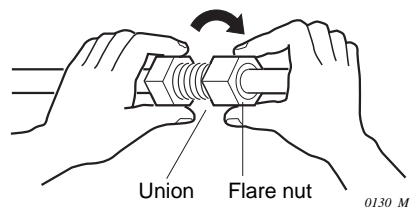

Fig. 8-5
- (3) For proper connection, align the union tube and flare tube with each other, then screw in the flare nut lightly at first to obtain a smooth match. (Fig. 8-5)